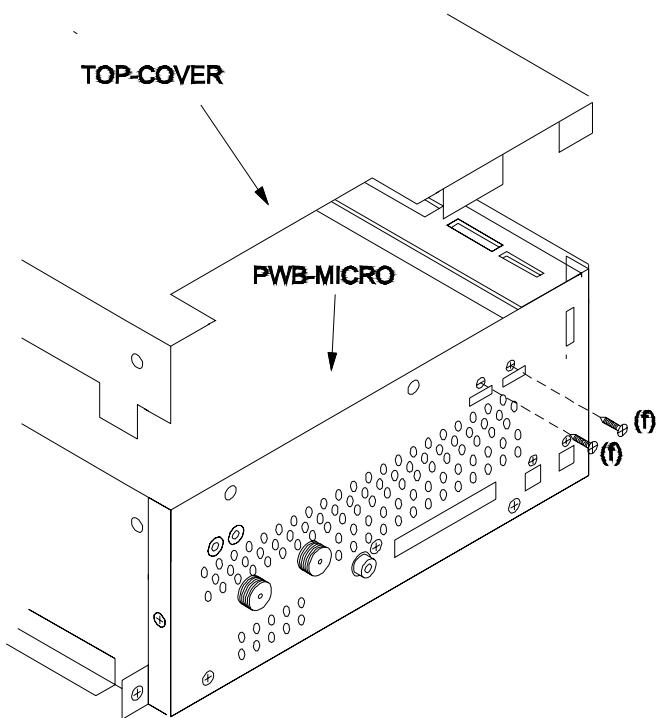

*Figure 3: PWB-POWER and Chassis Upper Shield*
**PWB-POWER Removal (Figure 3)**
**Chassis Upper Shield Removal (Figure 3)**